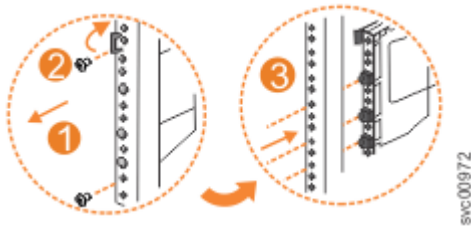

Figure 96. Remove the rail assembly from the front frame bracket
1. Remove the two screws that attach the outer rail section to the front bracket assembly, as shown in Figure 96 on page 141.
2. Remove the rail section by pulling it away from the front bracket, as shown in Figure 96 on page 141.